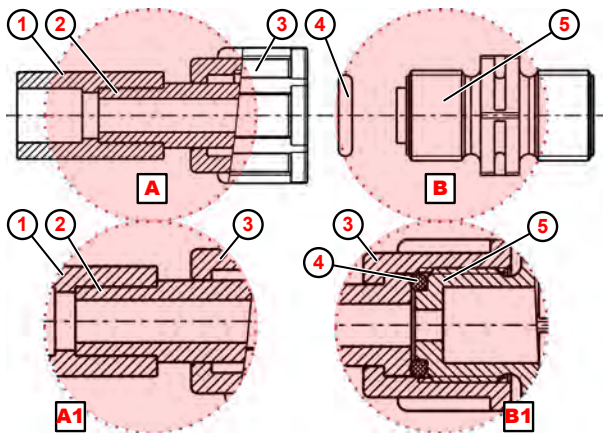

Fig. 10: Pipe connection with weld-on joint
1. ➤ Weld the weld-on concentration (Fig. 10 , ①) to the hose connection.
2. ➤ Place the o-ring ④ in the groove of the suction or pressure valve ⑤ .
3. ➤ Tighten the ③ union nuts (for details, ⓑ1).